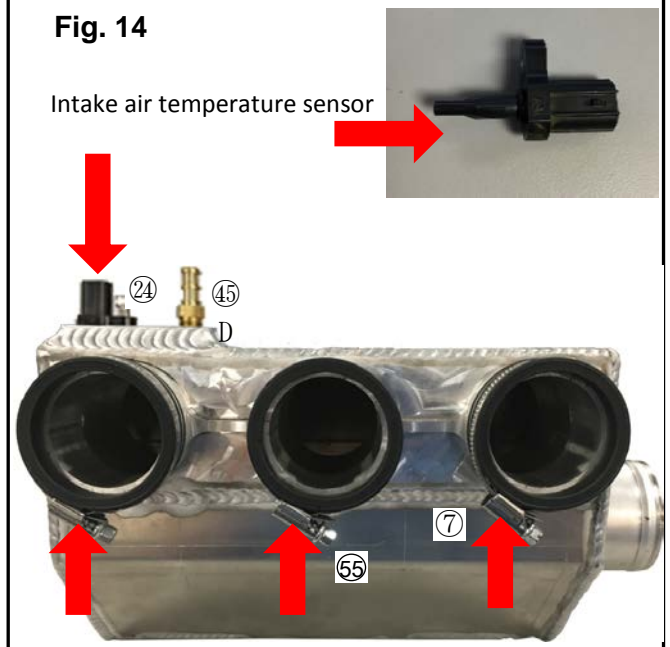

Fig. 15
- 21 Install the intake manifold onto the throttle bodies with the inlet pointing to the rear of the vehicle. Ensure the idle air control hose (shown in Fig. 12) is not pinched. Ensure all three rubber boots are correctly seated onto the throttle bodies. Tighten the intake runner clamps from below. Install the 1/4" Boost Pressure Hose (46) onto the nipple on the top of the intake manifold. Secure with a zip tie. See Fig. 15.